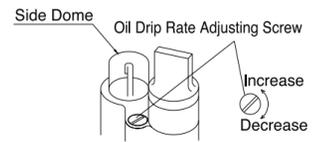

Fig.12
③Adjusting the Oil Drip Rate (Fig.12)